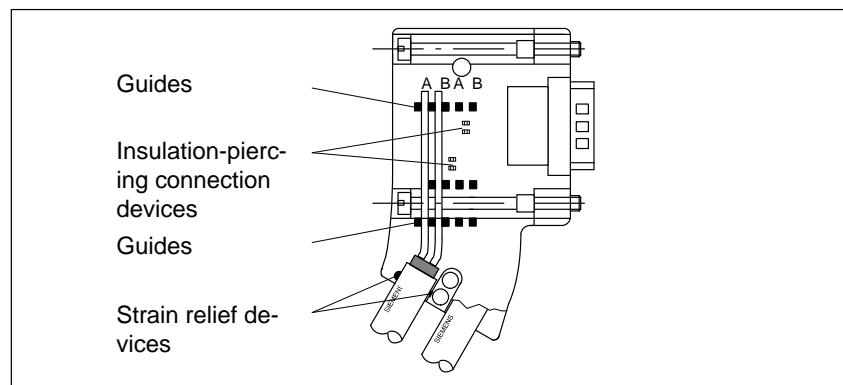

Figure 3-12 Connecting bus cable to bus connector (6ES7 972-0BA30 ...)
4. Insert the green and red conductors into the guides through the insulation-piercing connection devices as shown in Fig. 3-12.